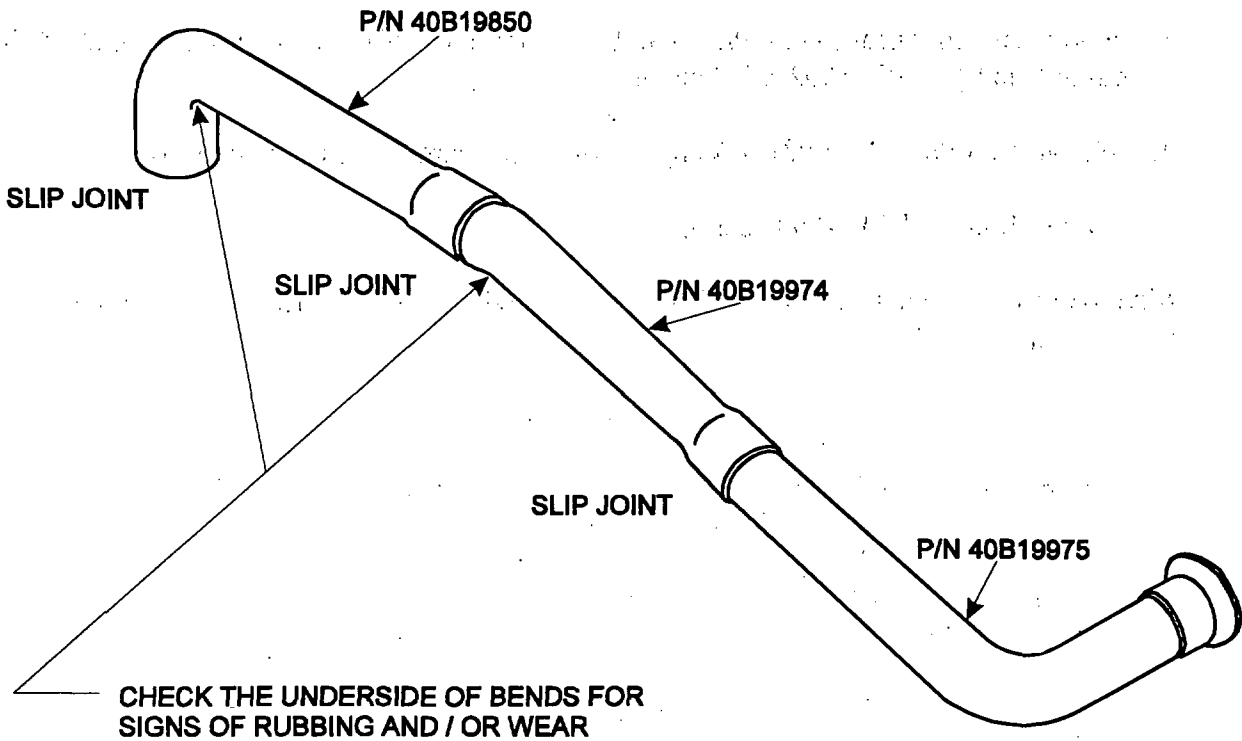

Figure 3. Inspecting P/N 40B19975 Right Crossover Exhaust Pipe and P/N 40B19850 Left Crossover Exhaust Pipe
7. Inspect the P/N 40B19975 right crossover exhaust pipe and P/N 40B19850 left crossover exhaust pipe for any signs of rubbing at the area shown in Figure 3. If any signs of rubbing and/or wear from heat shield contact are present, the pipes should be replaced.